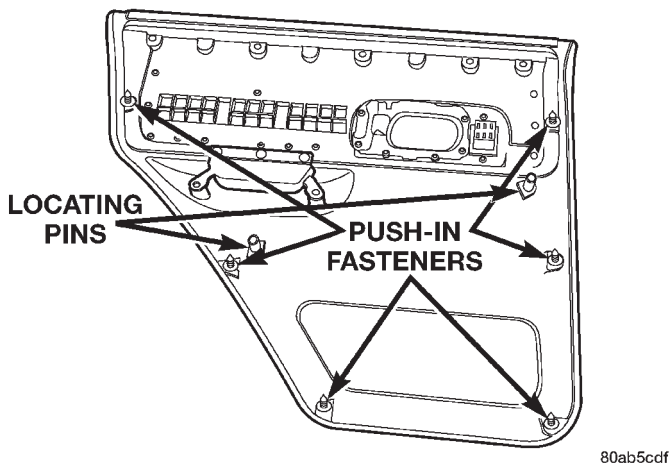

Fig. 48 Push-In Fasteners
- (1) Replace any broken or damaged push-in fasteners.
- (2) Connect the power window wire harness connectors, if equipped.
- (3) Move the door trim panel outward and connect the handle-to-latch rods.
- (4) Position the trim panel on the inner belt seal and push down to seat.
- (5) Align the locating pins and push-in fasteners (Fig. 48). Press inward to secure.
- (6) Install the screws attaching the trim panel to the door inner panel.
- (7) Install the window crank, if equipped.